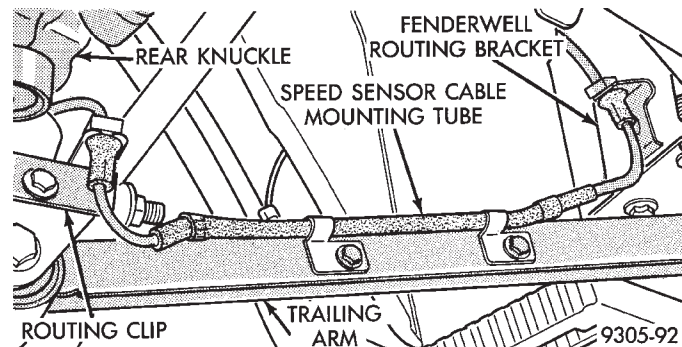

Fig. 7 Speed Sensor Routing Tube And Bracket
(9) If vehicle is equipped with Anti-Lock brakes. Remove the speed sensor cable routing tube on trailing arm and the routing bracket on the trailing arm bracket to spindle (Fig. 7). **If trailing arm is lowered from strut with the speed sensor cable attached damage to speed sensor cable may occur.**